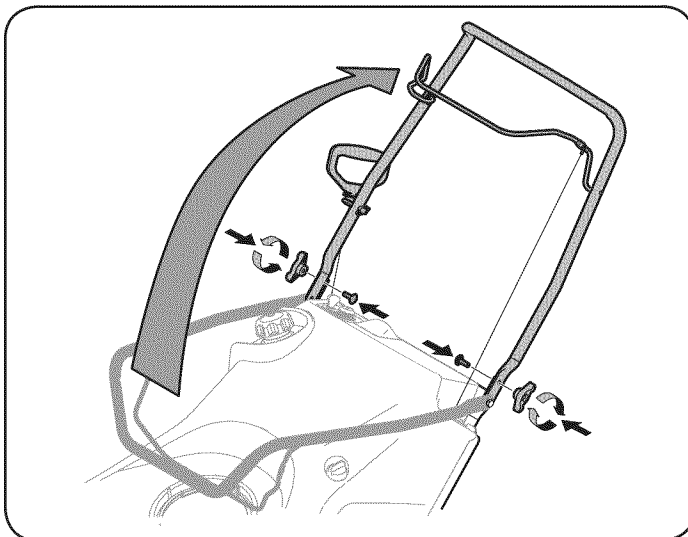

Figure 2
2. Pivot the upper handle into the operating position. Be sure not to pinch any of the cables in the process. See Figure 2.
3. Tighten the previously removed hardware to secure the handle in place. See Figure 2.